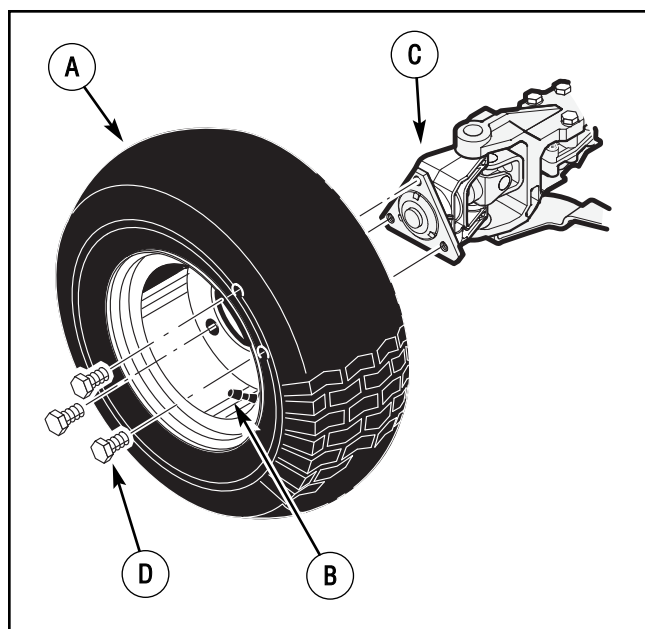

Figure 40: Rear wheel assembly
1. Make sure the **valve stem** is to the outside of the tractor. Mount the **rear wheel** to the **hub assembly** with the three **bolts**. (See Figure 40.)